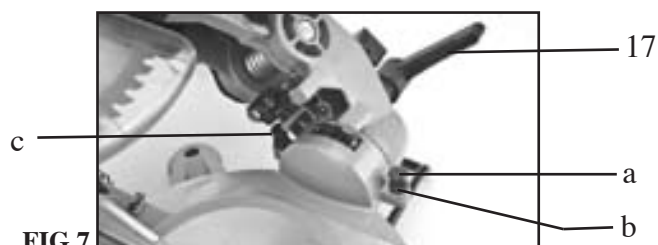

FIG 7
3. Loosen the bevel lock handle (17) at the rear of the saw with the saw arm at 0° bevel (blade 90° to the miter table).
6. Using a 13mm wrench, loosen the lock nut (b), securing the positive bevel stop adjustment bolt (a) in place. The 0° bevel adjustment bolt is located on the right lower portion of the bevel knuckle. (FIG 7)
7. Use a 13mm wrench to turn the adjustment bolt (a) and so that the saw blade is in alignment with the square. (FIG 7)
NOTE: To set the positive bevel stop for 45° use the above procedure utilizing a 45° triangle or the 45° side of the combination square. The 45° bevel adjustment bolts (c-FIG 7) is located on the left lower portion of the bevel knuckle.